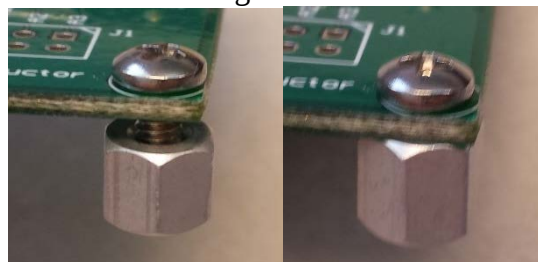

Figure 2: Base Tightened
- I. Select the “Flash Program” tab as shown in Figure 2, the “Flash Program” page will look as follows: